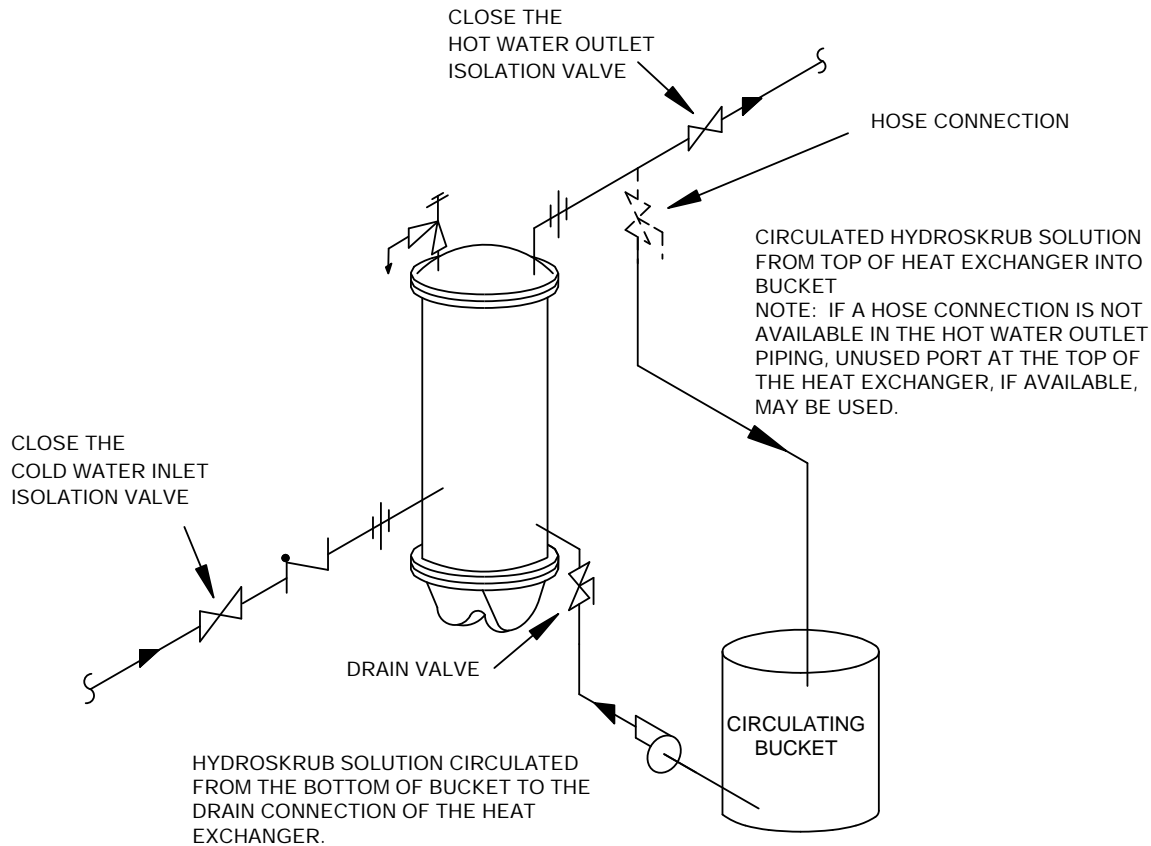

Figure 6-3. Sample HydroSkруб Pumping System Set-Up for Double-Wall Heater
Refer to the sample pumping set-up diagram shown in Figure 6-3 for a Double-Wall Heat Exchanger. For Helical Coil Heaters, refer to the applicable manuals listed in Section 1, paragraph 1.4.
- 4) Close the drain valve and connect a suitable size bucket and pump to the unit drain as shown in Figure 6-3.
- 5) Install a valve and hose connection in the outlet piping of the heater (Figure 6-3) and route the hose back to the top of the circulation bucket.